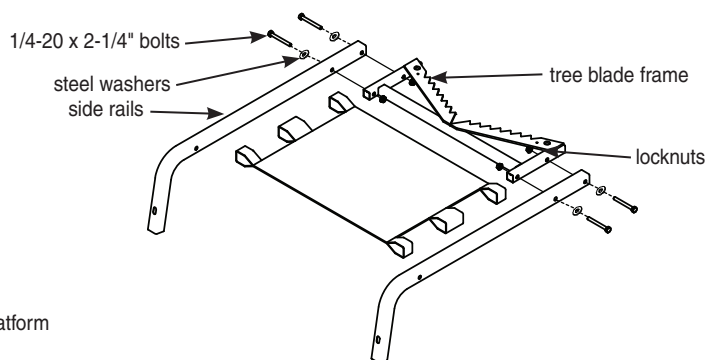

FIGURE 2
3. Attach the tree blade frame (SL67) to the side rails (SL69) using (4) provided 1/4-20 x 2-1/4" bolts, locknuts and steel washers. **SEE FIGURE 2. You must now tighten all nut & bolt assemblies. Be sure not to over tighten or crush tubing when tightening!**